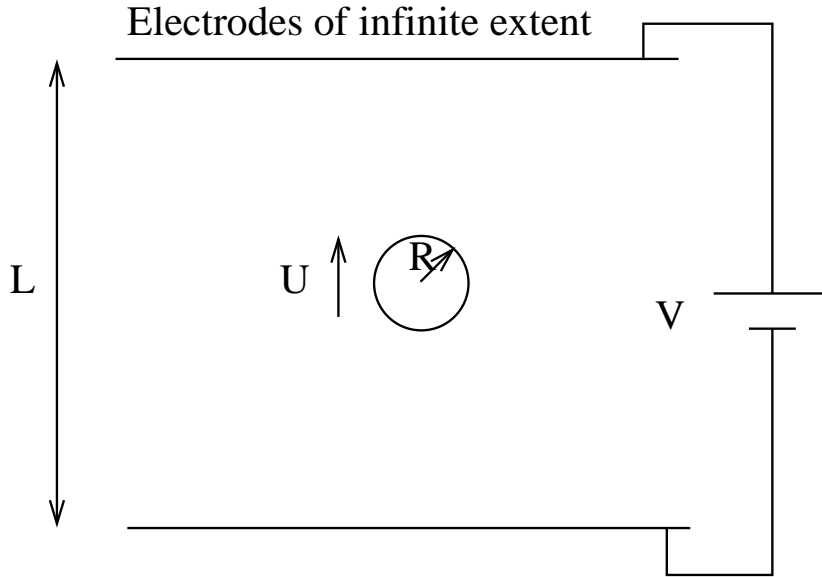

Figure 1: Motion of oil droplet in a water bath.
3. Use dimensional analysis to obtain the dimensionless groups in the problem of a droplet of oil placed in a water bath placed in an electric field between two plane electrodes separated by a distance  $L$ , and moving with velocity  $U$ , as shown in figure 1. Assume the density of oil and water are equal. The important dimensional parameters are,